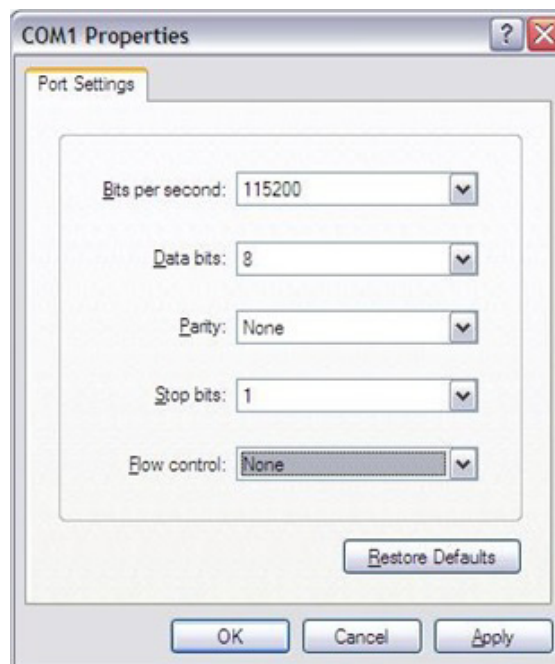

Figure 2.1 Hyper Terminal Settings for Terminal Setup
2. Open Hyper Terminal on your Windows PC, and select the settings as shown in Figure 2.1.